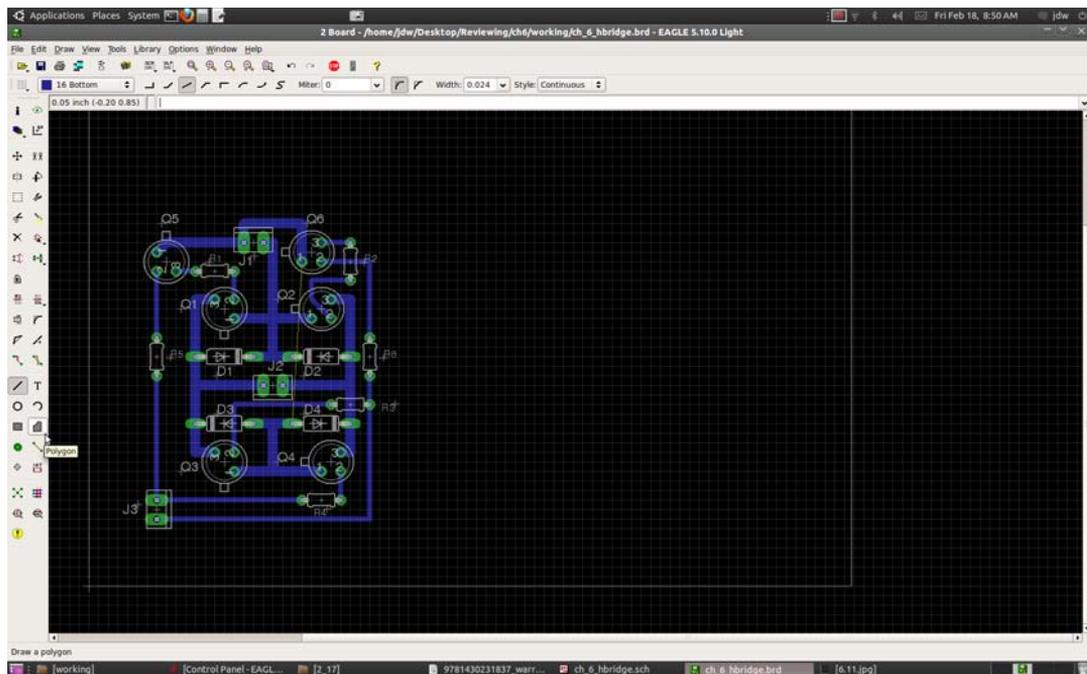

Figure 6-11. Use a smaller wire width to finish the signal traces and then select the Polygon tool to create a Ground plane.
5. *Routing power:* Click the Ratsnest button to remove the yellow virtual wires periodically after replacing them with wire connections. Finish the routing by connecting the remaining wires. You can use the resistors and diodes on this board as bridges to route wires beneath, as done with R2, R3, and D3 in Figure 6-11. You might notice the Ground wire going from Q5 and Q6 to Q3 and Q4 is still unrouted—that wire will be connected using the Ground plane in step 8.
6. **Make a Ground plane:** To fill all empty space on the PCB with a common GND pad of copper, you must select the Polygon tool from the Draw Polygon menu (see Figure 6-11). Upon selecting the Polygon tool, draw a line completely around the circuit, giving a little padding around the edges. To finish the polygon (actually a rectangle in this example), double click at the starting point. When the line is finished, use the Name tool to change the name of the polygon to be the same as the Ground supply, usually GND (see Figure 6-12).